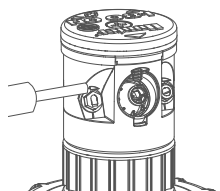

Figure 6
- 5 Each short-range and mid-range nozzle has an alignment pointer. Turn the nozzle clockwise until the pointer is facing the 12:00 position (Figure 6).